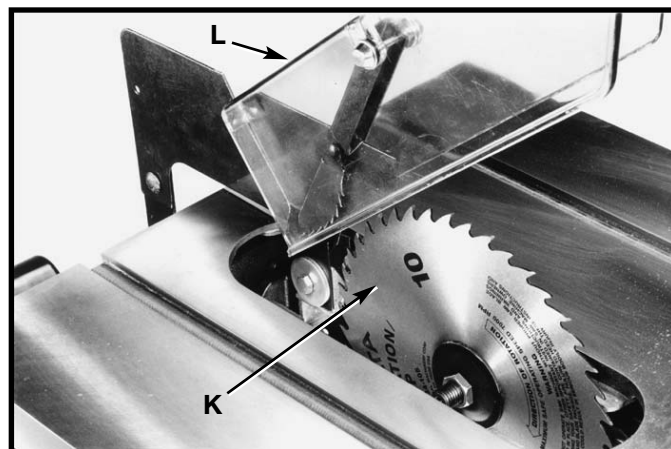

Fig. 31
9. With the blade guard (L) Fig. 31, in the raised position, assemble the saw blade (K) on the saw arbor **and tighten securely with two arbor wrenches supplied.** See section **“CHANGING SAW BLADE.”**